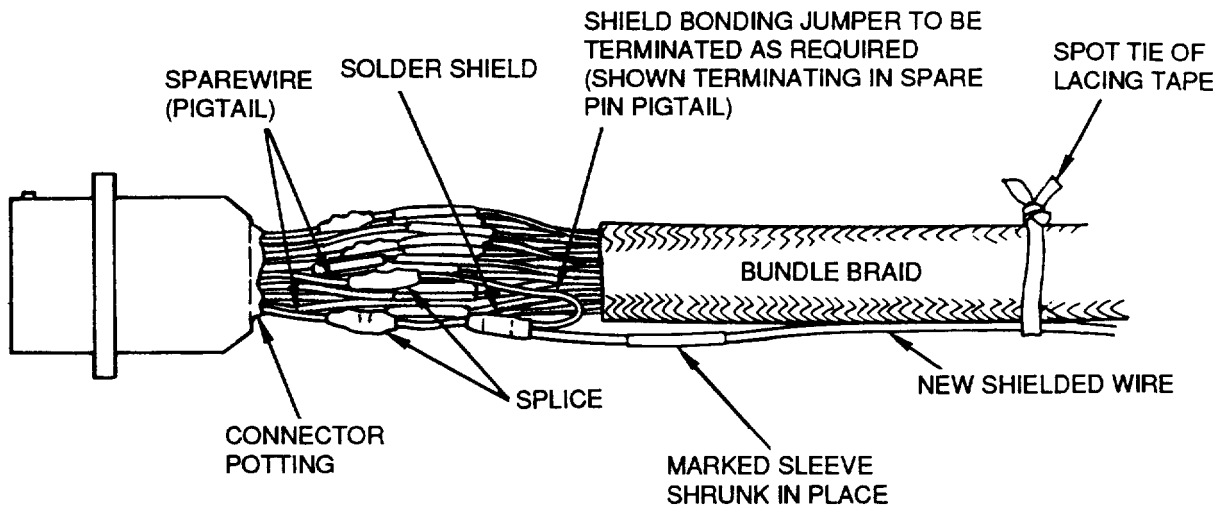

Figure 29. Adding Shielded Wire
36. **Adding Shielded Wires.** When shielded wires need to be added for changes or modification route parallel and external to the harness. Secure the added wires to the harness with lacing tape. The following procedures should be followed (Figure 29):